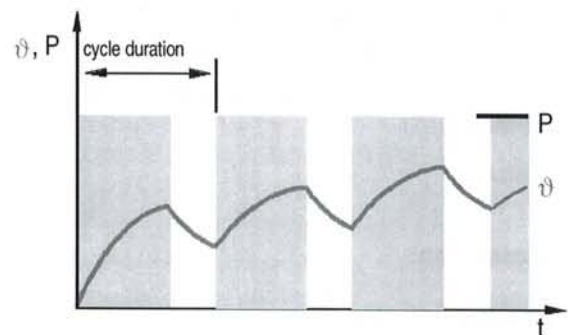

Fig. 1.8.3 Intermittent mode S3
- In **intermittent mode S3, S4, S5** (see Fig. 1.8.3), the pauses are short. They are not sufficient to cool down the motor to room temperature.